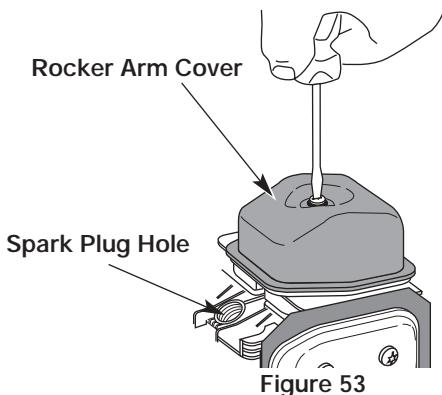

Figure 53
7. Clean dirt from around the rocker arm cover. Remove the screw holding the rocker arm cover with a large flat blade screwdriver or Torx T-25 bit. See Figure 53. Remove the rocker arm cover and gasket.
• The piston is at the top of its travel while looking in the spark plug hole. See Figure 53.